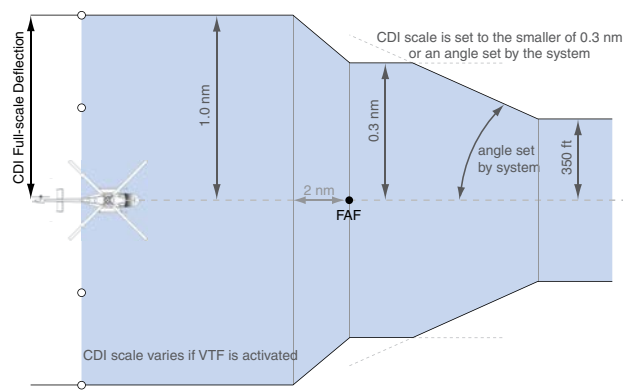

Figure 2-25 Typical LNAV and LNAV+V Approach CDI Scaling
- During **approach**, the CDI scale ramps down even further (see Figures 2-25 and 2-26). This transition normally occurs within 2.0 nm of the final approach fix (FAF). The CDI switches to approach scaling automatically once the approach procedure is activated or if Vector-to-Final (VTF) is selected.